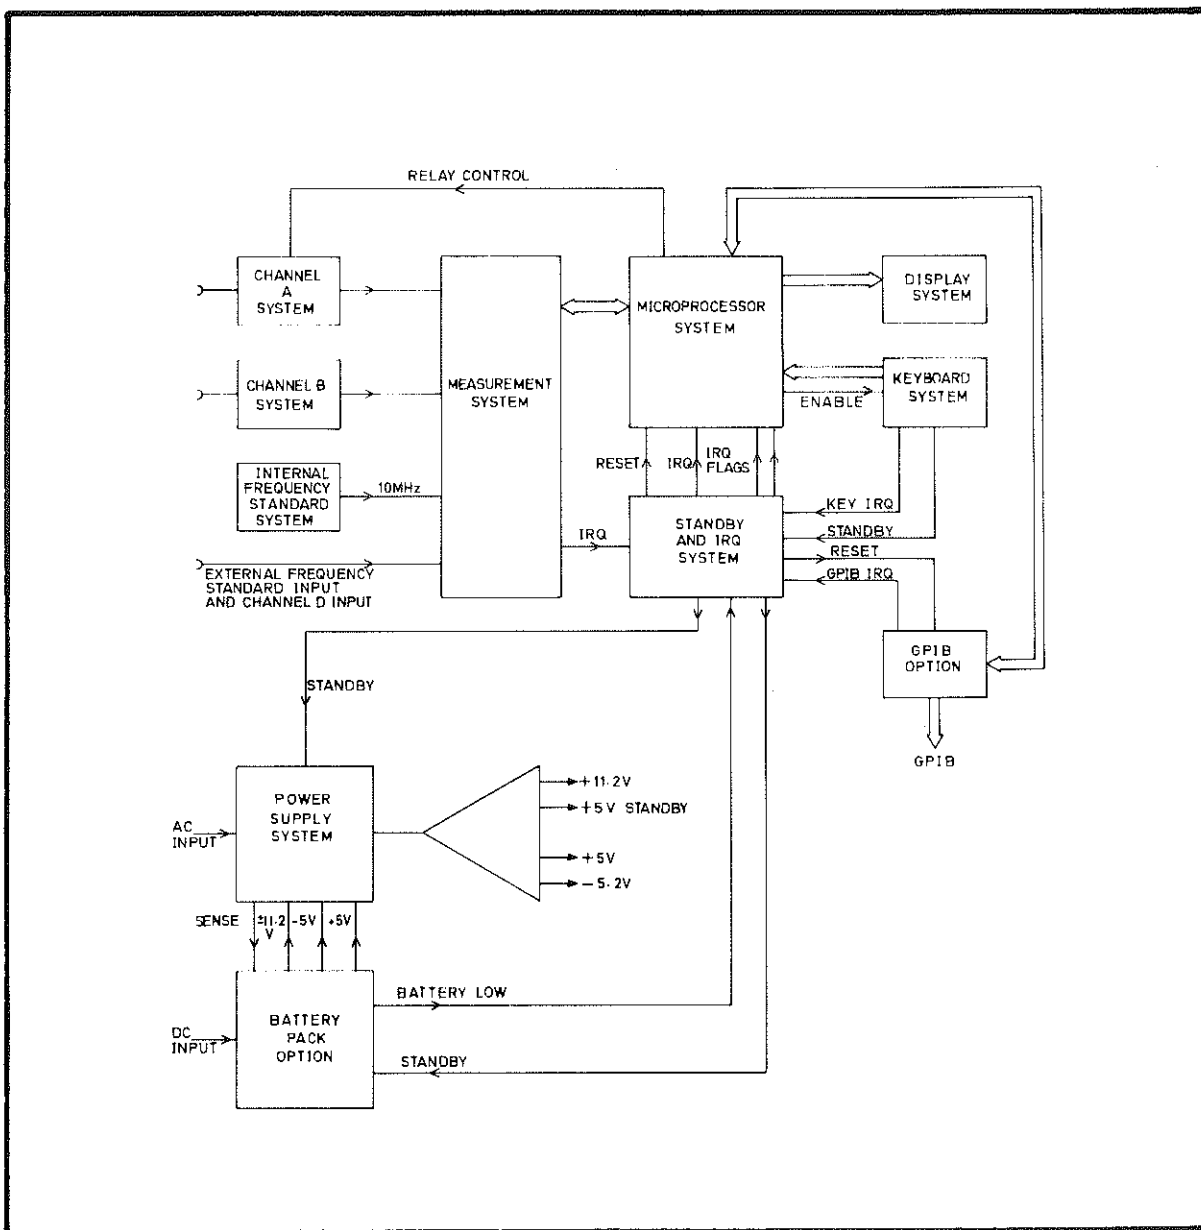

Fig 6.1 Functional Block Diagram
- (1) The channel A system.
- (2) The 1998 channel B system.
- (3) The 1999 channel B system.
- (4) The measurement system.
- (5) The display system.
- (6) The keyboard system.
- (7) The microprocessor system.
- (8) The standby and IRQ system.
- (9) The power supply system.
- (10) The internal frequency standard system.
- 4 The functional relationship between the systems is illustrated in Fig 6.1. The measurement system is internally configured by the microprocessor system according to the instructions entered via the keyboard or GPIB system. The signal to be measured and the signal from the frequency standard are fed to the measurement system. The measured result is passed to the microprocessor system. If mathematical manipulation of the result is required, this is performed by the microprocessor before the final output is passed to the display or GPIB system.